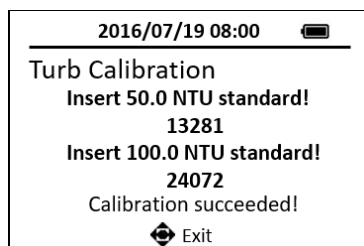

Figure 15. High Range Turbidity Calibration
11. Press the **OK** key to measure the selected standard. High range turbidity calibration is successful. (Figure 15)